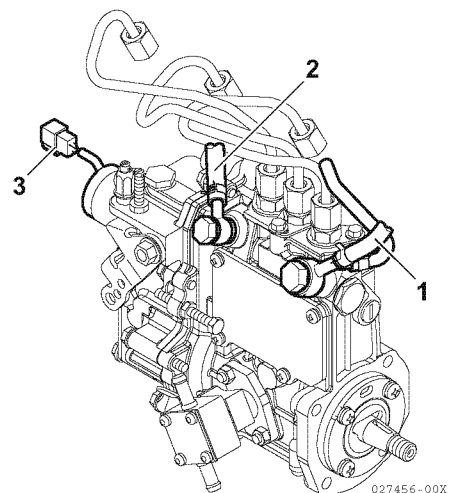

Figure 7-7
7. Disconnect the fuel return lines from the fitting on the fuel injection pump (**Figure 7-7, (1)**). Plug the open ends of the lines to minimize leakage and prevent contamination.
8. Remove the fuel supply line (**Figure 7-7, (2)**) from the fitting on the fuel injection pump.
11. Disconnect the stop solenoid wiring connector (**Figure 7-7, (3)**).